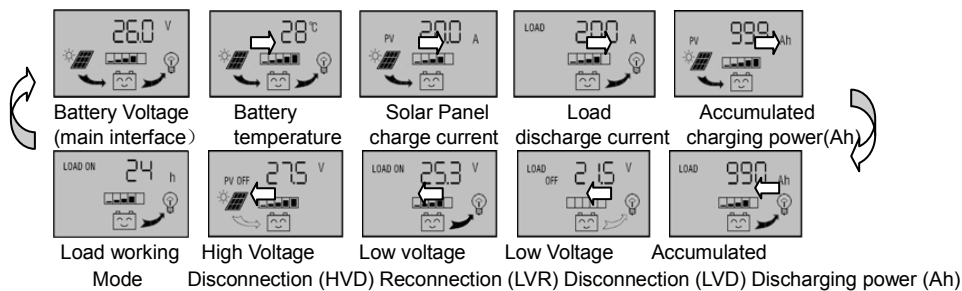

Figure 1
- : Interface loop switch button, use the button to cycle between pages in each switch cycle sequence shown in (figure 1)